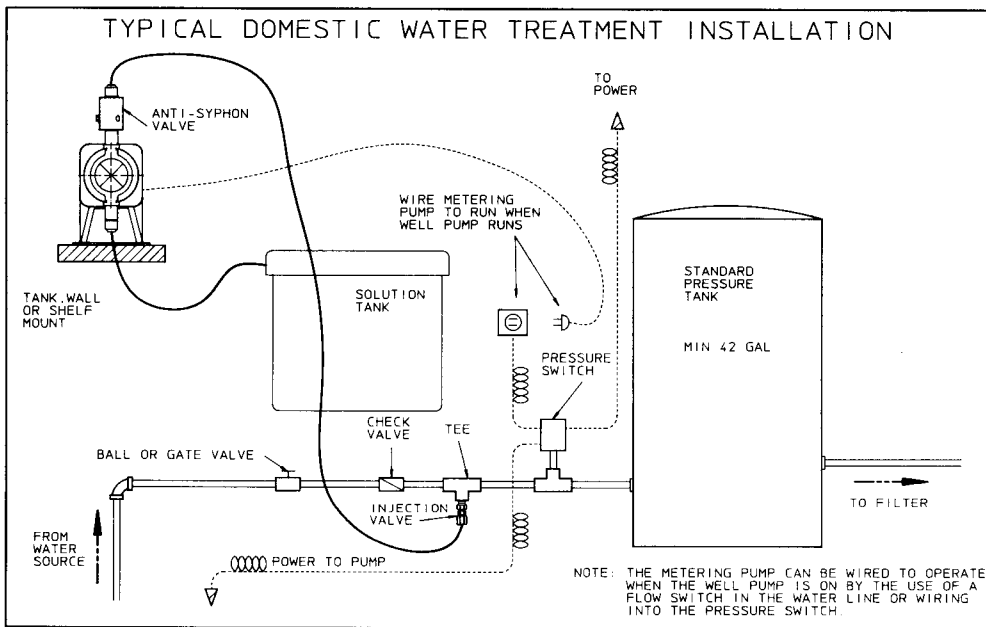

FIG G1
19. The pump is designed to operate using a backpressure/injection valve. If the discharge point is below the liquid level of the source or if the discharge pressure is less than the suction pressure, siphoning may occur. To correct this condition, install an anti-siphon valve or other anti-siphon device. Check local regulations which may apply. (Refer to Figure G1).
2. Install the backpressure/injection valve on the discharge side of the metering pump into a tee which is installed into the water line going to the pressure tank. Typical installations are found in figures G1, G2 and G3.